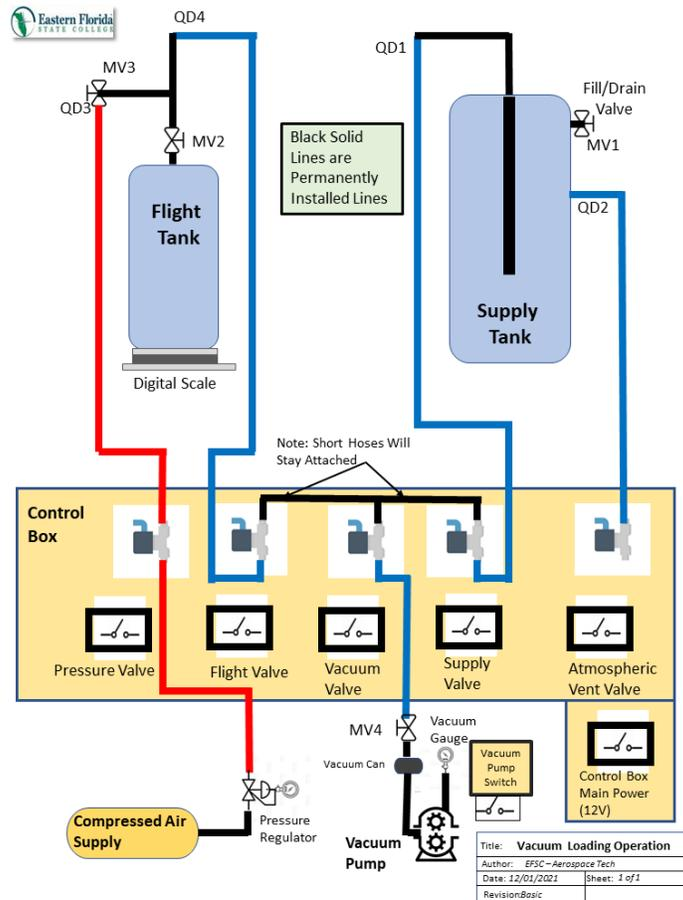

Figure 1 : Space Vehicle – Vacuum Loading Operation
- B) Setup (Reference Figure 1)
- 5) Connect Vacuum and Fluid lines as shown in schematic (Figure 1) Note: all fittings are push lock type. Ensure lines are pushed in all the way. The compressed air line to pressure valve will already be connected.
- 6) Verify all Vacuum and Fluid lines are connected as shown in schematic (Figure 1)